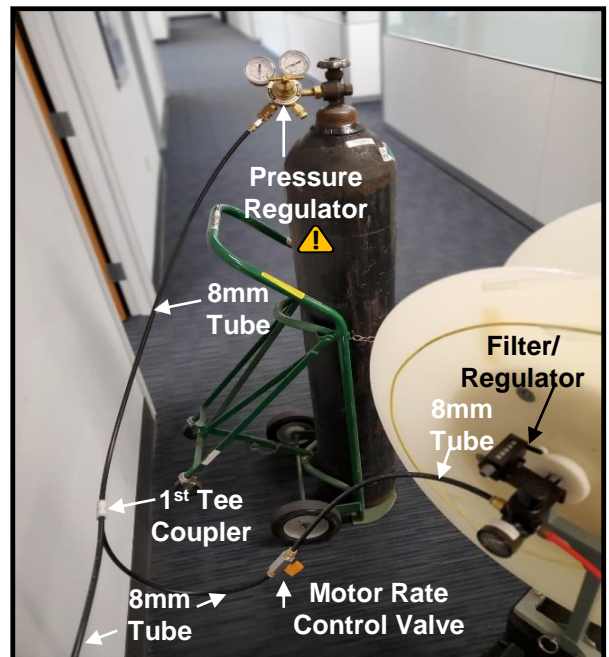

Figure 13
8.4 Push-fit “Installer Provided” length of 8mm tubing between Pressure Regulator’s 8mm Tubing Adapter and “First” Tee Coupler. (3’ - 4’ length suggested.) See Fig. 13.
8.5 Push-fit “Installer Provided” 8mm tubing between First Tee Coupler and one of the 8mm fittings on Motor Rate Control Valve. (6” - 9” length suggested.) **See Fig. 13.**
8.6 Push-fit “Installer Provided” 8mm tubing between the other 8mm fitting on Motor Rate Control Valve and the 8mm fitting on the Filter/Regulator Assembly. (2’ - 3’ length suggested.) **See Fig. 13.**